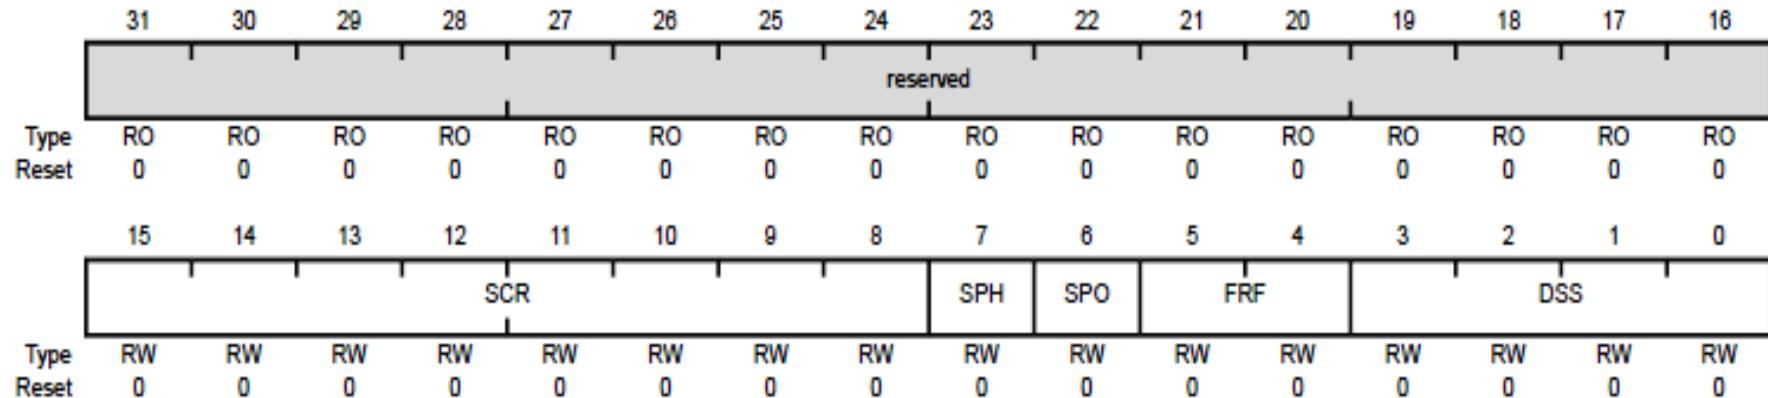

Figure 8.11 The bit field and functions of the SSICR0 Register.
- Figure 8.11 shows the bit field and functions of the **SSI Control 0 (SSICR0)** Register.